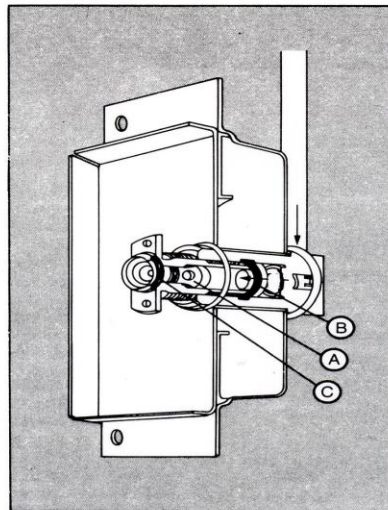

FIGURE 2
When not in use, gas is in a non-flowing state within the outlet station, sealed by O-rings in the poppet (A) and the valve body (C). O-ring (B) seals the valve body within the outlet base housing - Figure 2.